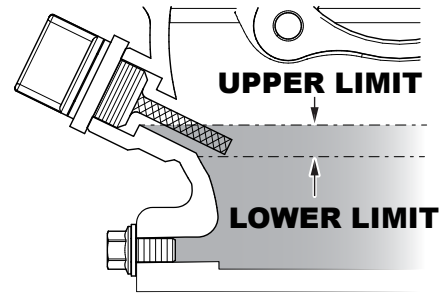

Figure 6. Engine Oil DipStick (Oil Level)
4. If the oil level is low (See Figure 6), fill to the edge of the oil filler hole with the recommended oil type (Table 6). Maximum oil capacity is 0.26 quarts (0.25 liters).